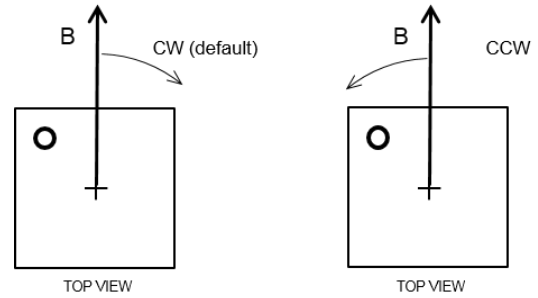

Figure 15: Positive Rotation Direction of the Magnetic Field
By default, when looking at the top of the package, the angle increases when the magnetic field rotates clockwise (CW) (see Figure 15 and Table 10).